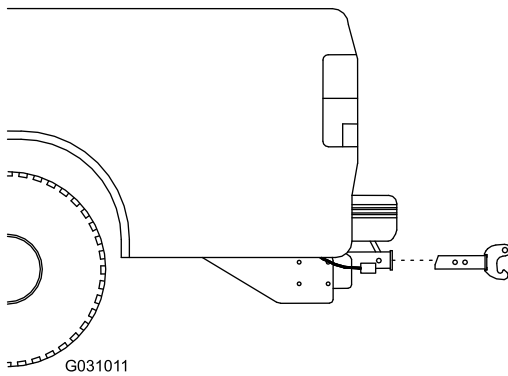

**Figure 9**
1. Attach the D-ring end of the ratchet straps to the upper holes on the outside of the spreader frame using a bolt (1/2 inch), washer (1/2 inch), and locknut (1/2 inch) and torque the bolts to 76 Nm (56 ft-lb) as shown in Figure 9.